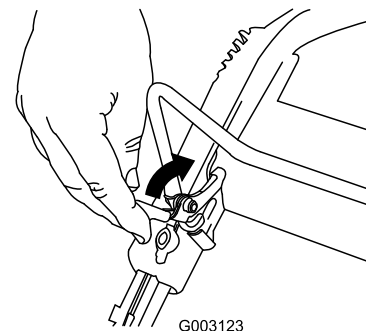

Figure 16
To shut off the engine, press and hold the engine-shutoff button (Figure 16) until the engine shuts off.
1. Pull the control-bar lock back (Figure 16).